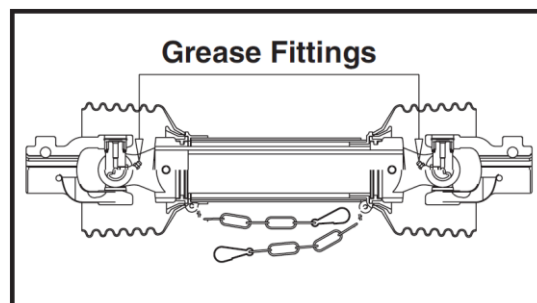

Fig. 12
- Daily grease the drive shaft universal joints (Fig. 12) and check the level of the oil in the gearboxes.